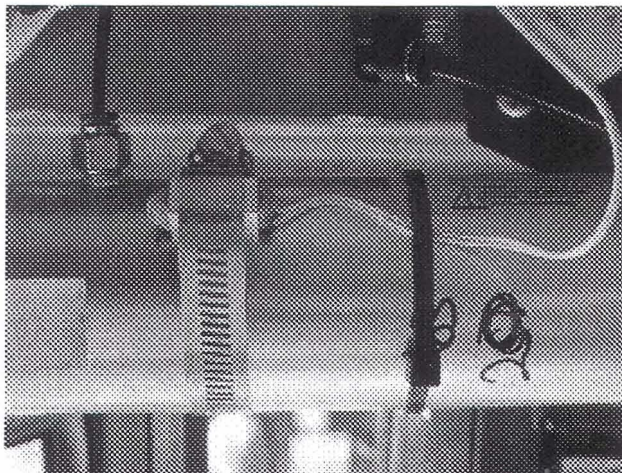

**Figure 6**
6. Install new entrance door position switch, #TBB 165692 with the new band clamp, #TBB164982 loosely on the actuator. Install the switch so that its end is one and one half inches (1.5") from the end of the actuator body. It should be positioned between 12 o'clock and 2 o'clock as referenced from the actuator fittings. The band clamp should be centered on the aluminum housing. Tighten the band clamp to 20 in-lbs. **Figures 6 & 7**